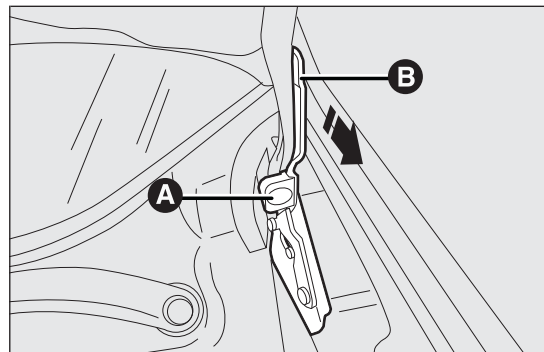

fig. 85
- ☐ lift the bonnet with one hand and pull the device A fig. 85 towards yourself while you are lowering the B;